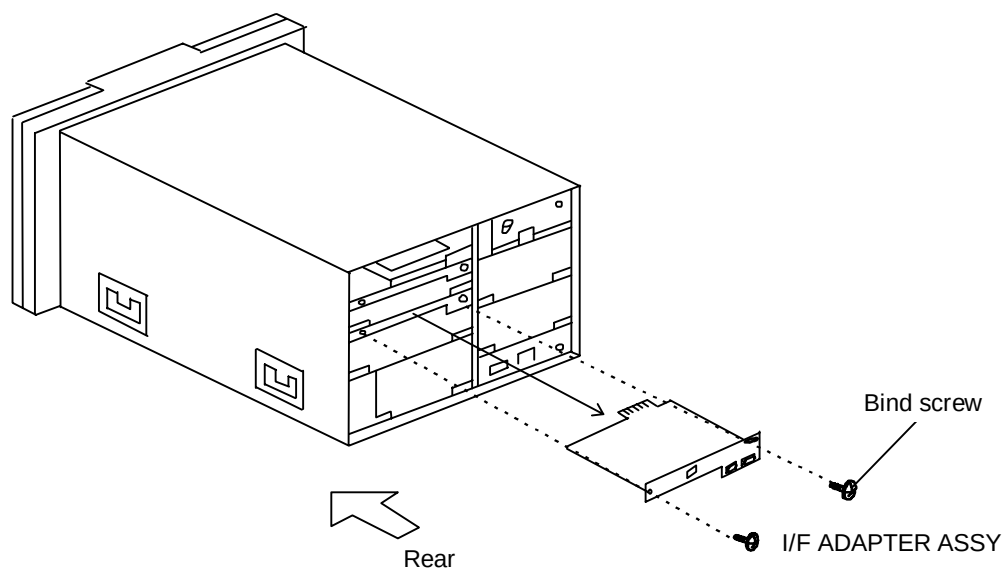

Figure 3.2.6 Setting I/F ADAPTER ASSY
(6) Setting I/F ADAPTER ASSY (See Figure 3.2.6.)
- ① Insert the I/F ADAPTER ASSY into the right place and tighten the bind screw.